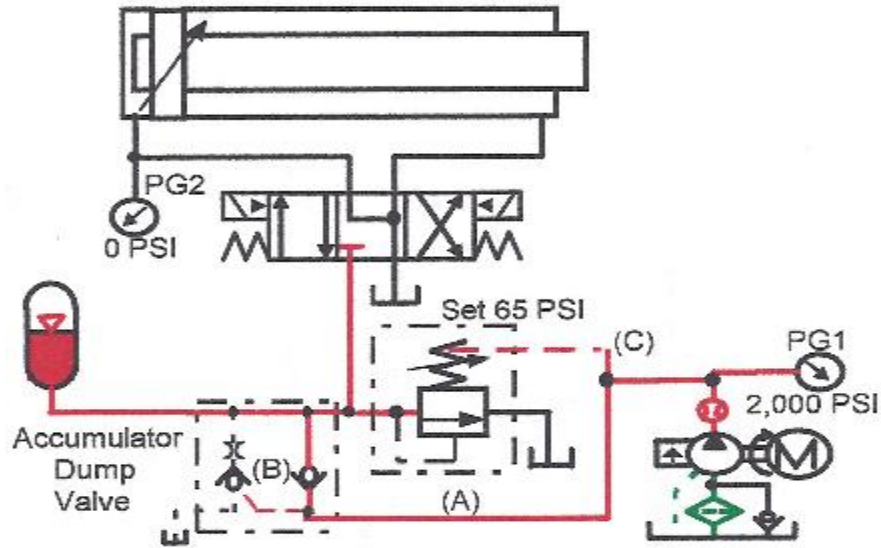

Figure 20-25. Pressure-compensated pump with safety relief valve — cylinder extending and being pushed back.
Relief valve (A), installed anywhere in the pressure line, protects the system when set 150 to 200 psi higher than the pump compensator. The inlet to a pressure-compensated pump should never see a pressure higher than its compensator setting. Adding check valve (B) at the pump outlet assures that pressure at the pump never goes above the compensator setting. However, relief valve (D) may cause problems, as stated in Chapter 1, page ACC7. Figures 20-25 through 20-27 show an overpressure protection circuit that is less prone to problems.
Figure 20-25 shows internally piloted, externally drained, low-pressure sequence valve (A) teed into the pump outlet. (Valve (A) has a low-pressure spring rate between 50 and 250 psi.) The outlet of sequence valve (A) goes directly to tank. Isolation check valve (B) in the pump outlet line before the sequence valve keeps reverse flow and excess pressure away from the pump. Pilot line (C) from the pump outlet before check valve (B) goes to the external drain port of sequence valve (A).